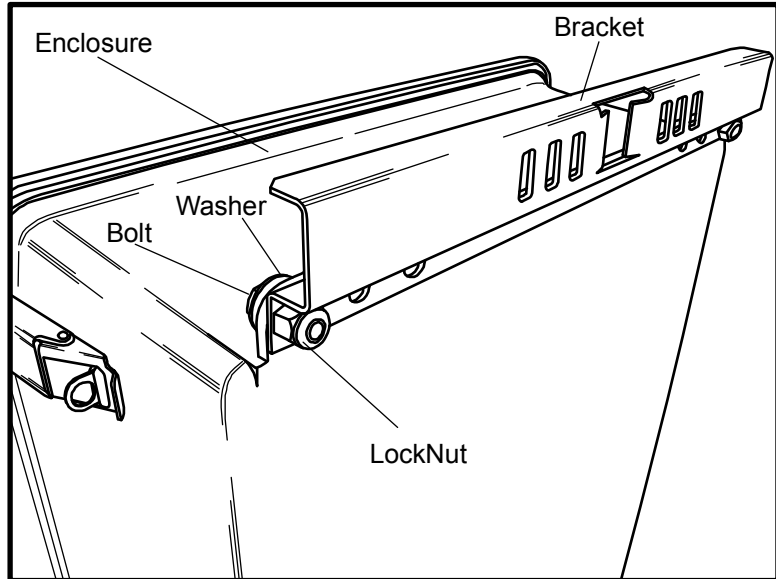

FIGURE 4-12. Attaching the Pole Mount Bracket
1. Position a bracket at the top of the enclosure as shown in Figure 4-12. Secure it with a bolt, washer, and locknut at each end. Attach the lower bracket in the same manner, rotating the bracket so it extends below the enclosure.